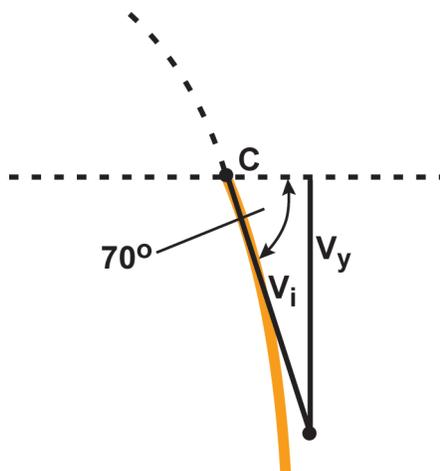

Figure 16
4. At point C the angle of the velocity will be the same as the angle at the projectile apparatus. Because of the angle of the projectile velocity at point C, the vertical component is the one to use in the equation. See Figure 16.